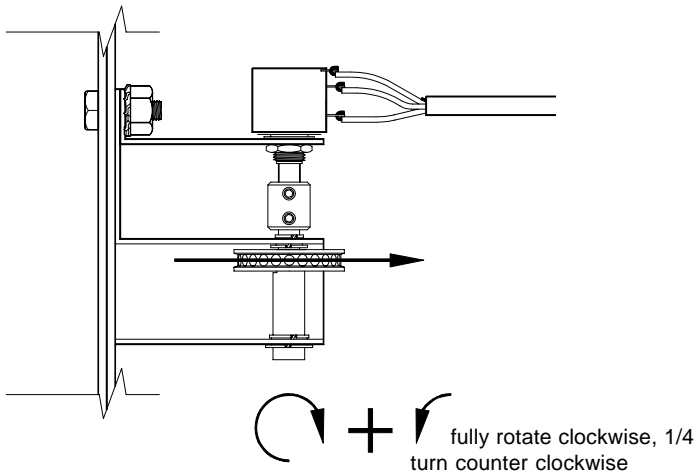

Figure 4
- 6) Rotate potentiometer drive pulley (clockwise looking at end of the shaft) until the internal stop is reached. Rotate the pulley in the reverse (counter clockwise) direction $\frac{1}{4}$ turn away from the stop. **See Figure 4.**